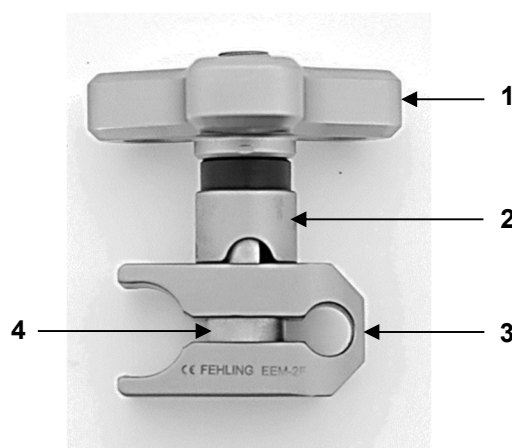

Fig. 5: Cross connector EEM-2F
Figure 5 depicts the cross connector EEM-2F. This consists of a star grip (1), a clamping sleeve (2), a clamping piece (3) and a threaded rod (4).